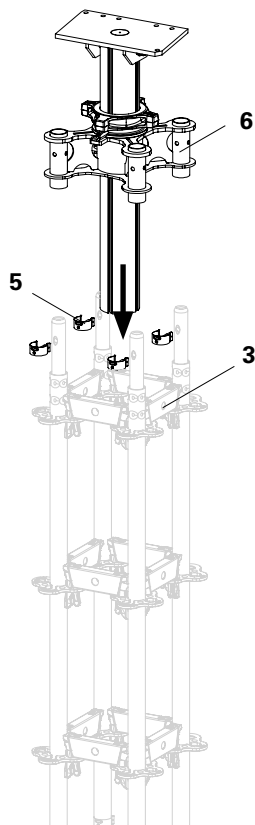

Fig. A1.05
1. Fit the head spindle (6) onto the pins of the Standards UVR.
2. Tightly connect the Standards UVR and the head spindle with locking pins  $\varnothing$  48/57 (5). (Fig. A1.05)